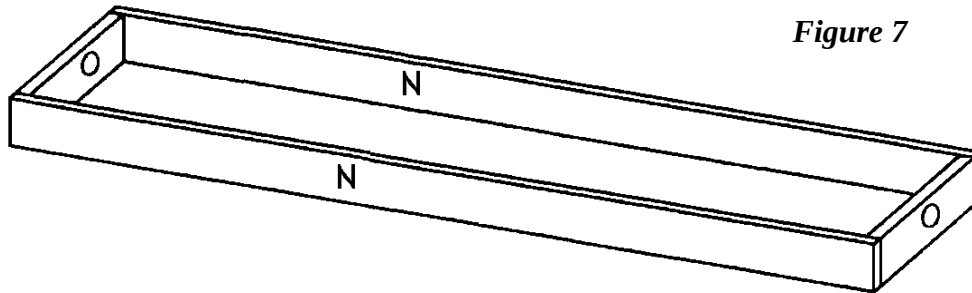

Figure 7
2. Cut two long bottom supports (N) from the ripped material, each measuring 46-1/2 inches long.
3. Cut two short bottom supports (O) from the ripped material, each measuring 11 inches long.
4. Place the two long bottom supports (N) on a level surface, parallel to each other, on edge, and 11 inches apart. Place the two short bottom supports (O) between the two long bottom supports (N), as shown in *Figure 7*. Screw through the long bottom supports (N) into the short bottom supports (O) using two 1-1/2-inch screws on each joint.